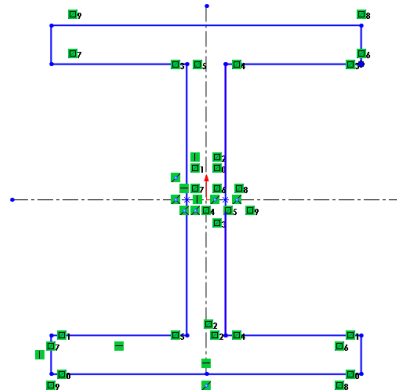

Figure 3-65 Final sketch for Tutorial 1
- Modify the sketch by dragging the sketched entities, refer to Figure 3-65.
6. Release the left mouse button when the **X Coordinate** spinner shows the value 10. The final sketch after modifying the sketched entities by dragging them is shown in Figure 3-65.